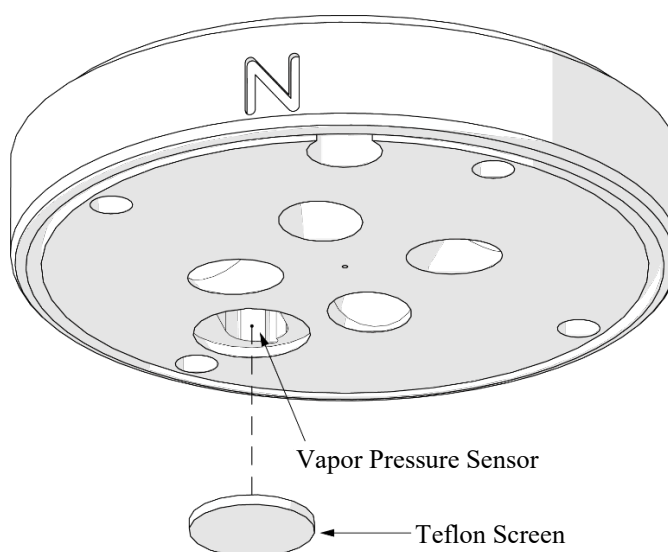

FIGURE 9-4. Teflon screen
4. Inspect the Teflon screen (FIGURE 9-4) and replace if dirty.
7. Relative humidity and barometric pressure maintenance. A field-replaceable module contains the barometric pressure and relative humidity sensors. This module is under the Teflon screen (FIGURE 9-4) and should be replaced every two years.